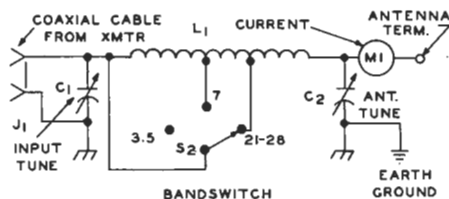

FIG. 1. SCHEMATIC DIAGRAM of the pi-network antenna tuner model shown in the photos.
- S₁.....Fig. 1: 3 position, 1 section heavy duty ceramic insulated tap switch (from BC-375 transmitter).
At W2FBS, a pi-network tuner was constructed to resonate a long wire antenna on three bands, 3.5, 7 and 21 megacycles. The schematic diagram is shown in Fig 1. Total inductance of the coil, L_1 , for the 3.5-megacycle band, and the tap positions for 7 and 21-megacycle operation, were determined by experiment. A 0-4-ampere r.f. ammeter was installed to indicate maximum antenna current.
THE INTERNAL CIRCUITRY of the TS-13 handset can cause difficulty when the microphone plug is inserted into circuitry designed for the T-17 microphone. The differences in internal wiring are shown in Fig. 1. (It is not known whether *all* have these circuits, but they have been found in the T-17D and TS-13E. Several other types of carbon microphones also have similar internal circuitry.
FIG. 1. COMPARISON of circuitry found in some T-17, TS-13 and other carbon microphones with push-to-talk switch buttons. Note that the T-17 has a fourth lead for the control circuit which becomes common with the microphone circuit at the 3-way plug.
The complete circuit is shown in the schematic diagram, Fig. 1. Connection to the (continued on page 7)
FIG. 1. SCHEMATIC DIAGRAM of the 'scope adapter. All components to the right of J₁ should be installed inside the 'scope cabinet. The optional link coupling circuit, L₂, is recommended where more than 10 feet of coaxial cable is required between the transmitter and oscilloscope. The "gimmick" capacitor should then be replaced with a 10-mmf mica capacitor. All capacitances are in mmf, mica, unless otherwise specified.